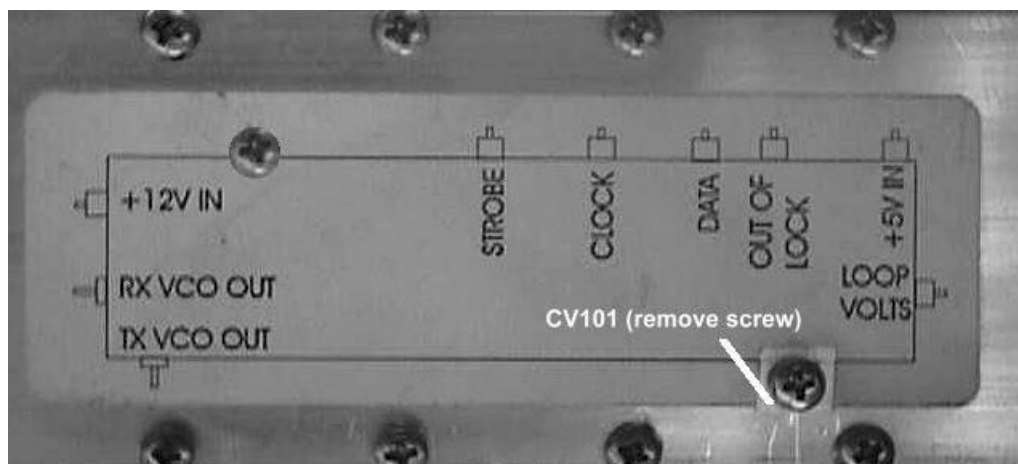

Figure 7.12: Location of Loop Volts adjustment CV101
2. Remove the bottom cover and refer to Figure 7.12 below to identify the location of the Loop Volts output feed-through capacitor in the local oscillator module. Check with a digital multi-meter (DMM) that the VCO Loop Volts measurement is within the range of 3 to 4 Volts DC.
If necessary, reset this by adjusting VCO trimmer capacitor CV101 as indicated in Figure 7.12 below. (It will be necessary to remove the screw in the aluminium block to access the trimmer. Always replace this screw after adjustment).